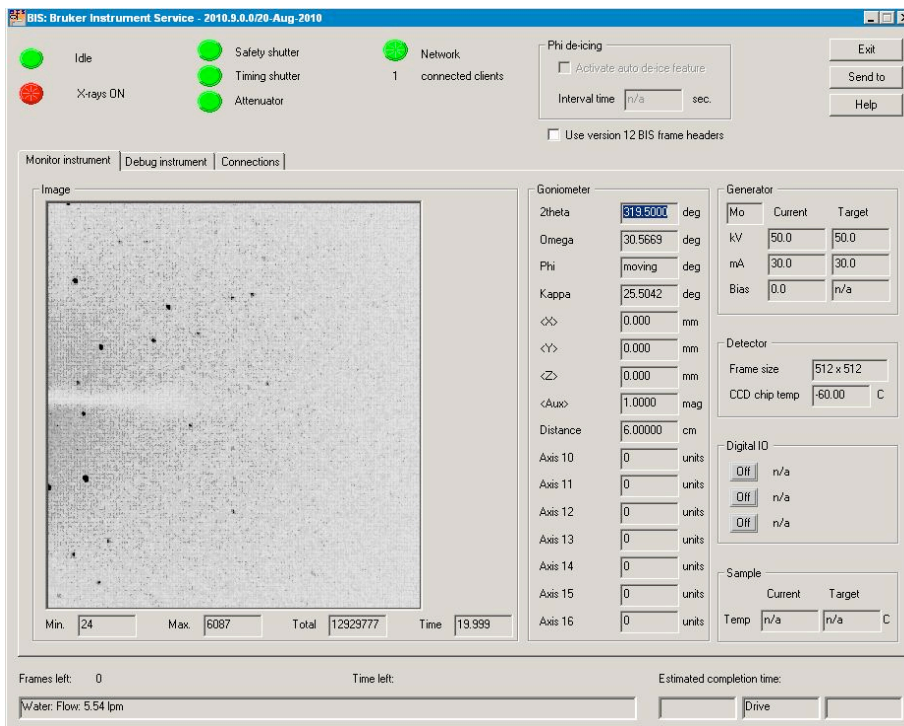

Figure 6
- 9) Click icon BIS on the desktop and BIS should start without any errors (Figure 6) and Video window will come up too. If not, see facility director for help.
If you need to switch between Mo and Cu sources, check what is the current radiation source first. You can do so in BIS window (Figure 6), or instrument status (Figure 19) in APEX2 (**Instrument>Show Status**). Wavelength is 0.71073 for Mo and 1.54184 for Cu.